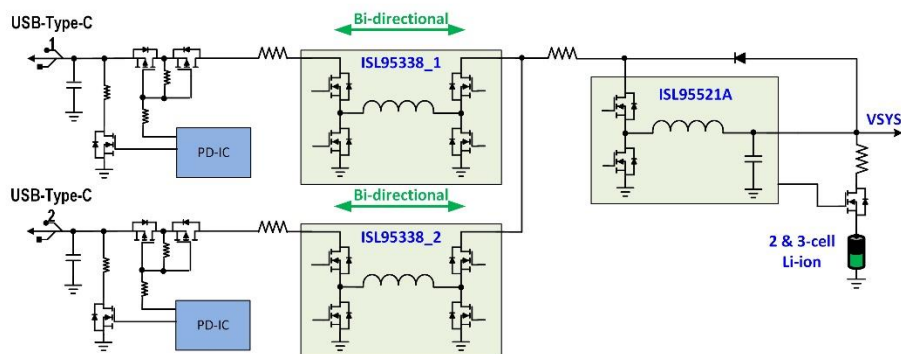
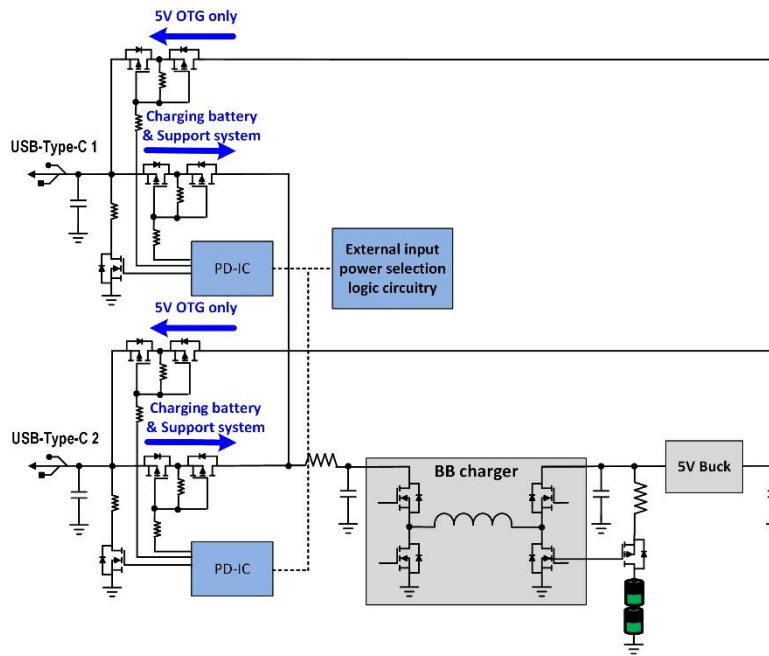
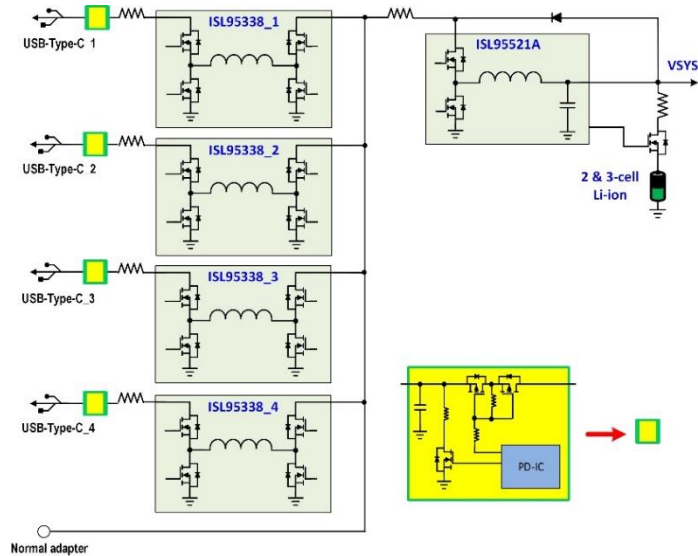

Figure 1. Renesas battery charger architecture—dual USB Type-C ports with 2x BB regulator + buck charger
Figure 2. Current battery charger architecture—single BB charger + complicated external logic
Figure 3. Renesas battery charger architecture for four USB Type-C ports—4x BB regulator + buck charger
Figure 1 shows a new USB Type-C architecture that consists of the ISL95338 bidirectional buck-boost (BB) voltage regulator and ISL95521A combo battery charger or ISL9238 BB battery charger. It allows a system to charge its battery through USB Type-C ports, and it supports the fast charge function when two PD chargers are plugged into USB-C_1 and USB-C_2. This new architecture also supports full USB 3.1 On-The-Go (OTG) for both ports without additional complex port-control logic circuits or ICs.
Comparing Figure 1 and Figure 2, it's easy to see that the current battery charger architecture requires more devices and complicated external circuitry to implement the same functions and performance level as Renesas' battery charger architecture. Obviously, with the current battery charger system, every individual charger path requires a USB-PD controller to control two ASGATE and perform the charge function, which increases the design's system cost. To implement 5V buck OTG, the OTG gate also needs a PD controller. Note that the current buck converter can only output a single fixed voltage. Figure 2 shows that if the 5V buck is adapted, designers can only output a fixed 5V, which doesn't match the adjustable 5V up to 20V OTG output voltage required by many USB Type-C applications.
The proposed Renesas architecture overcomes all of these disadvantages. Figure 1 shows that two ISL95338 are in parallel to interface two USB Type-C ports to the ISL95521A battery charger. The system architecture is simplified, saving significant costs for customers because several components are eliminated, including individual PD controllers, ASGATE and OTG GATE. Most importantly, using fewer components does not degrade performance. For example, if the battery needs to be charged, power is delivered directly from the USB-C input to the ISL95521A. In addition, having two ISL95338's in parallel provides even more options for customer applications.
For instance, two USB-C inputs with different power ratings can be applied for heavy charging the battery, which means the battery charge power is higher than the single USB-C input power. Figure 1 illustrates how this can be accomplished with one ISL95338 (set for USB-C high power rating) in the voltage loop to support a constant voltage (V_O) for ISL95521A input, while the other ISL95338 (set with a USB-C small power rating) is in the current loop to automatically deliver maximum power to ISL95521A. In other words, there is no need to add external circuitry or logic to determine the different power rating operation of the two paralleled ISL95338 BB voltage regulators.
shown in Figure 2. Also, by using SMBus communication between the two ISL95338's, ISL95521A and PD controller, the OTG voltage can be adjusted instead of using a fixed value. Figure 3 shows a high power fast charging application where the new Renesas battery charging architecture can be extended to parallel four ISL95338's with one ISL95521A or ISL9238 battery charger. Each USB-C port can operate individually as a sink or source. This architecture can also combine the conventional adapter as a power source for the system, without increasing BOM cost.